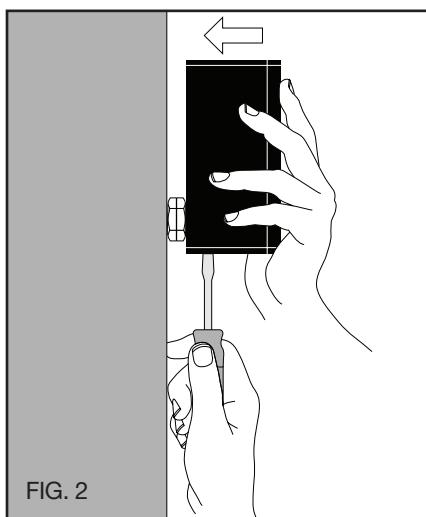

FIG. 2
**STEP 2** Place control on the well. While holding box against well nut, tighten well clamp screw. (Fig. 2)